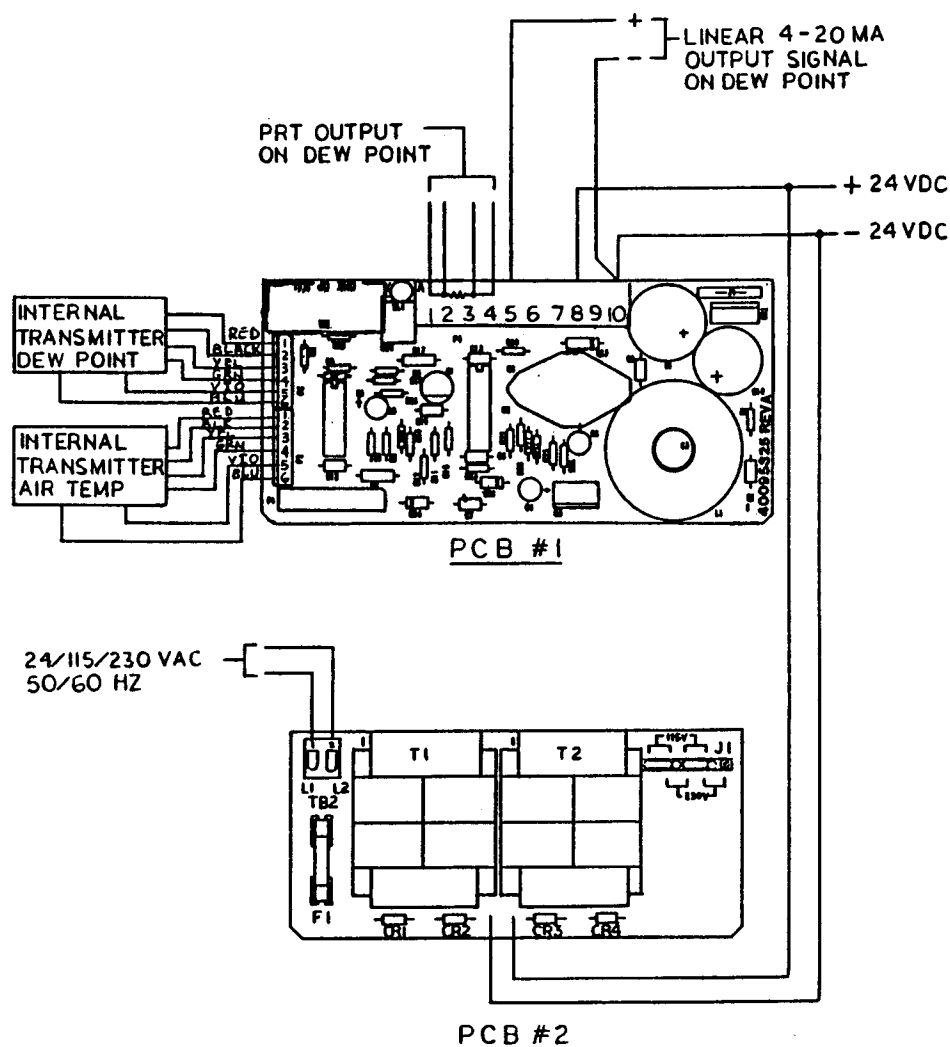

Figure 3-2. Printed Circuit Board #2 Connected to Printed Circuit Board #1
Refer to Figure 3-2.
5.2 SIGNAL CONNECTIONS FOR DEWPOINT (Refer to Figure 3-2 for reference)